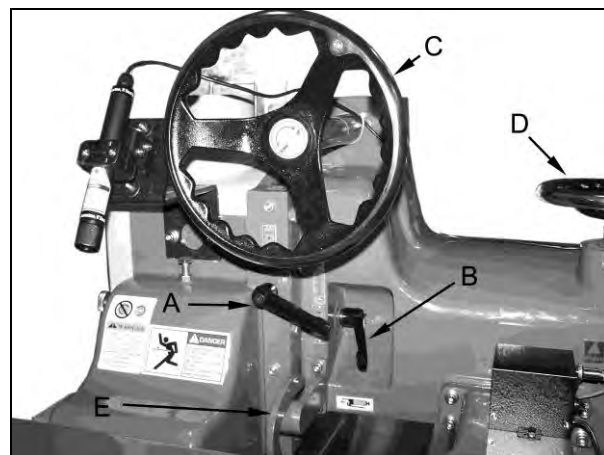
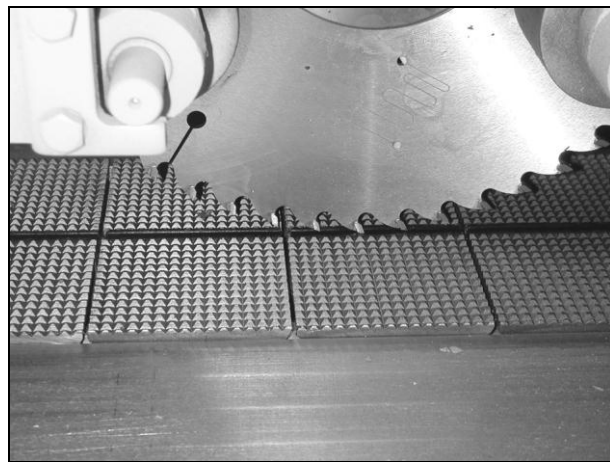

Figure 3
Figure 5
3. If the width of 'A' is greater than 'B' then the fence needs to be adjusted as in Figure 3.
1. To remove the saw blade first loosen the arbor lock handle (B, Figure 3) and the carriage lock handle (A, Figure 3).
**Note:** Make sure the carriage lock handle is not pushed down and into the anti-kickback lift handle (E, Figure 3) or it will break when the carriage is lowered.
2. Turn the carriage height hand wheel (C, Figure 3) to lower the pressure wheels to a distance of approximately  $\frac{1}{4}$ " above the conveyor chain.
3. Turn the saw blade height hand wheel (D, Figure 3) to raise the saw blade to a distance of approximately  $\frac{1}{4}$ " above the conveyor chain. This will prevent the possibility of damage to the blade when removing it.
1. For proper operation the height of the saw blade must be below the conveyor chain but no more than 1/16" (Figure 5). This will in effect allow the blade to cut into the rubber chain insert. This is normal. Adjust the arbor height hand wheel (D, Figure 3) accordingly.
2. Once the saw blade height is set lock into place with the arbor height locking handle (B, Figure 3).
3. Now return the carriage to it's correct height using the carriage height handwheel (C, Figure 3) and lock into place with the carriage lock handle (A, Figure 3).
1. Loosen the carriage lock handle (A, Figure 3). Turn the carriage height adjustment wheel (D, Figure 3) to the correct height according to the previous section.
2. Lock the carriage in place with the carriage lock handle (A, Figure 3).